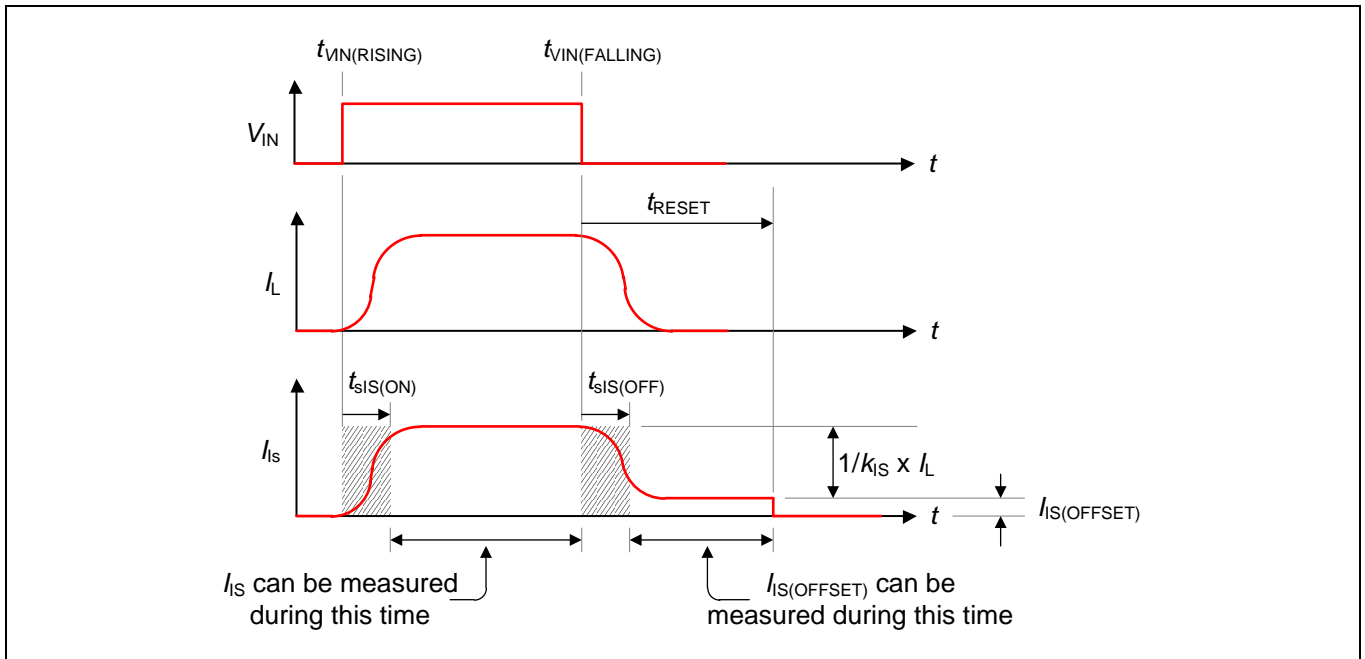
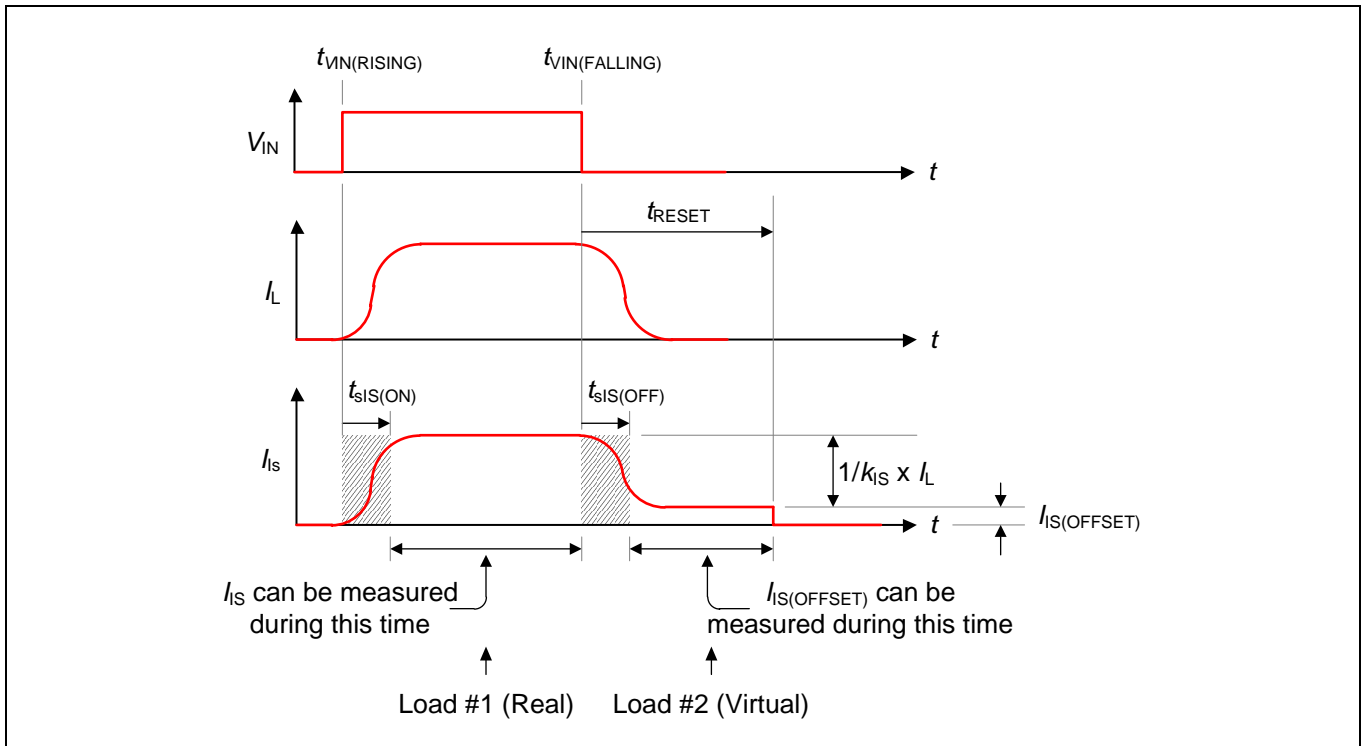

Figure 13 Measuring $I_{IS(OFFSET)}$ with an ADVANCED SENSE enabled device
Figure 15 Performing Virtual 2-Point Calibration using only a single load
The second difference and major advantage of an ADVANCED SENSE enabled device is that it provides direct access to the sense current offset as illustrated in Figure 13.
As is illustrated by Figure 13, the difference between reading I_{IS} and $I_{IS(OFFSET)}$ is dependent on the state of the V_{IN} input and the time since the V_{IN} input transitioned from a LOW to a HIGH state, or vice versa (definitions for HIGH and LOW can be found in the parameter tables of the respective device datasheet):
Figure 13 illustrated that one of the major benefits of an ADVANCED SENSE enabled device is that it provides direct access to the sense current offset. This means that Virtual 2-Point Calibration can be performed by manufacturing test using only a single load as illustrated in Figure 15.
The single real load, shown as Load #1 in Figure 15, equates to I_{L1} in Equation (9). The virtual load, shown as Load #2 in Figure 15, equates to I_{L2} in Equation (9); this is equivalent to a no load (open load) condition, which means that $I_{L2} = 0$ in Equation (9).
From Figure 15, the sense current associated with Load #2 is $I_{IS(OFFSET)}$. From Equation (8), $I_{IS(OFFSET)} = V_{IS(OFFSET)} / R_{IS}$, so substituting this in Equation (9) gives the formula used by manufacturing test to calculate k_{IS} as shown in Equation (10).
With ADVANCED SENSE enabled devices, the offset is provided by the device under the conditions described in Figure 13; switching a known load is not required. Furthermore the offset value with ADVANCED SENSE enabled devices is always positive, which means that it is always subtracted and always easily measured.
By comparison, in the case of ADVANCED SENSE enabled devices, the offset is given by the device, thereby removing the requirement for switching in two known loads during manufacturing test. As discussed in Figure 15, ADVANCED SENSE technology supports the concept of *Virtual 2-Point* calibration, which means that it is possible for manufacturing test to obtain a true 2-point calibration by measuring at only one load current.